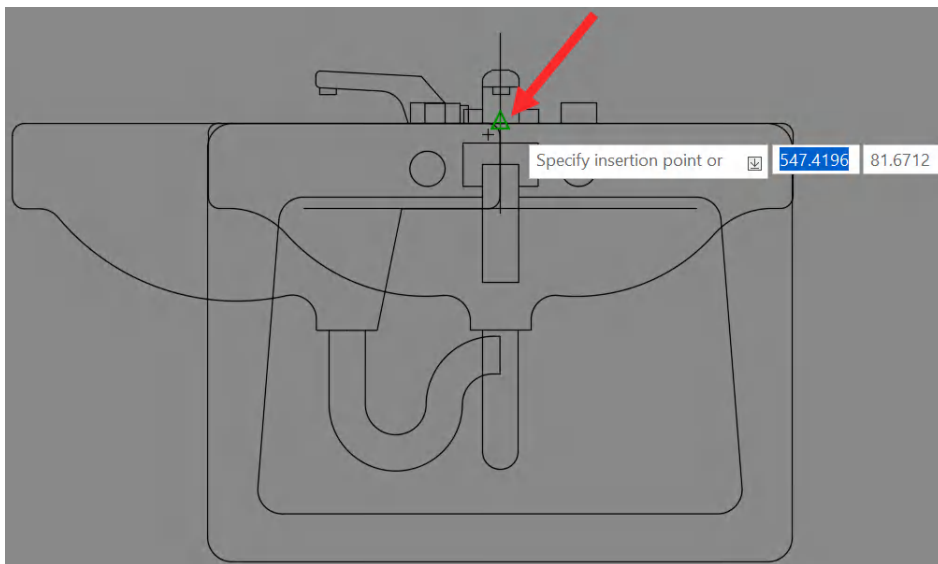

Figure 12.19: Reusing the Midpoint object snap on the Washbasin\_TOP block
8. Repeat the process from the **Insert** drop-down menu, but this time, insert the **Washbasin\_FRONT** block. Again, at the **Specify insertion point** prompt, use the **Midpoint** object snap on the **Washbasin\_TOP** block to place the block as shown in *Figure 12.19*.